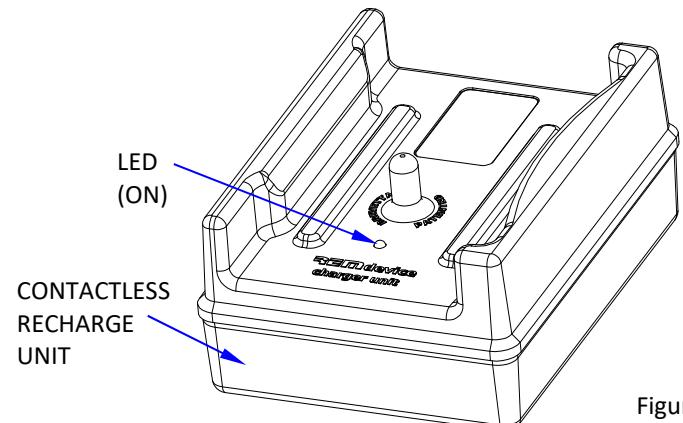

Figure 2
- check that the (ON) LED is lit on the charger (see Figure 2 on page 9), (it means it is being powered correctly);